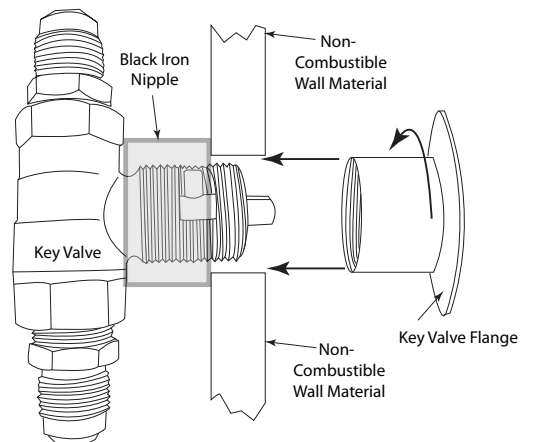

Fig. 5 Typical installation.
3. The primary gas shut-off (not supplied) will require a $\frac{1}{2}$ " male flared fitting to enable connection of the stainless steel flex gas line supplied with the fire pit (see Fig. 5 page 7).
The key valve contents: 1- key valve, 1- key and 1- flange. (See Fig. 4). The valve requires a 1¼" round clearance hole in the non-combustible enclosure wall. See the instructions supplied with the key valve for more specific details. Note: Be sure to leak test all fitting before operation. Fig. 5 shows an example of a typical installation.